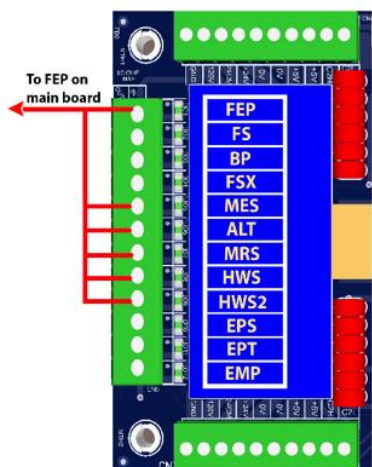

Figure 1: Typical I/O Expansion Board
- 1.5 Add temporary connections on the GALX-1102 Main I/O Board and Expansion I/O boards as shown in Figures 1, 2, 3, and 4.